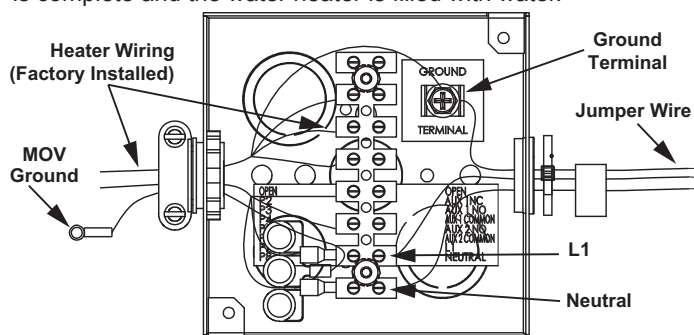

Figure 56. Electrical Wiring - Junction Box
The 120-VAC hot wire from the power supply must connect to the black jumper wire or the "L1" terminal block location in the junction box and the 120-VAC neutral wire must connect to the white jumper wire or the "Neutral" terminal block location in the junction box for correct polarity. See **Figure 56** (page 41).
3. Connect the 120-VAC hot wire from the power supply to the black jumper wire or the terminal block location marked "L1" inside of the junction box located on top of the water heater. If the black jumper wire is used, make the connection inside of the junction box with a properly-sized wire nut. Wrap electrical tape around the wire nut and wire end. See junction box **Figure 56** and the wiring diagram **Figure 67** (page 68).
5. Connect the 120-VAC neutral wire from the power supply to the white jumper wire or the terminal block location marked "Neutral" inside of the junction box located on top of the water heater. If the white jumper wire is used, make the connection inside of the junction box with a properly sized wire nut and wrap electrical tape around the wire nut and wire end. See junction box **Figure 56** and wiring diagram **Figure 67** (page 68).
7. Connect the ground wire from the power supply to the grounding lug inside the junction box. See the junction box in **Figure 56** and the wiring diagram **Figure 67** (page 68).